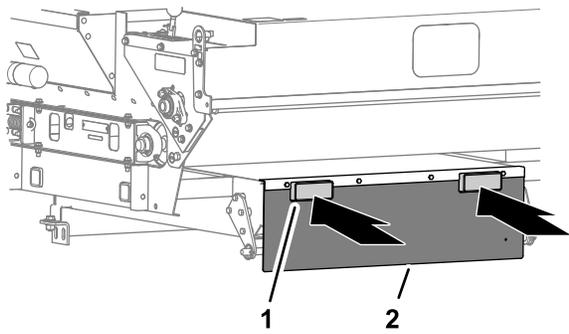

**Figure 7**
4. Secure a spacer mount to top of each hitch frame tab with the cap screw, 2 flat washers, and locknut previously removed (Figure 7).
- 6. Position the machine onto the frame of the Workman vehicle, aligning the holes in the rear mounting brackets with the holes in each side of the frame (Figure 7).